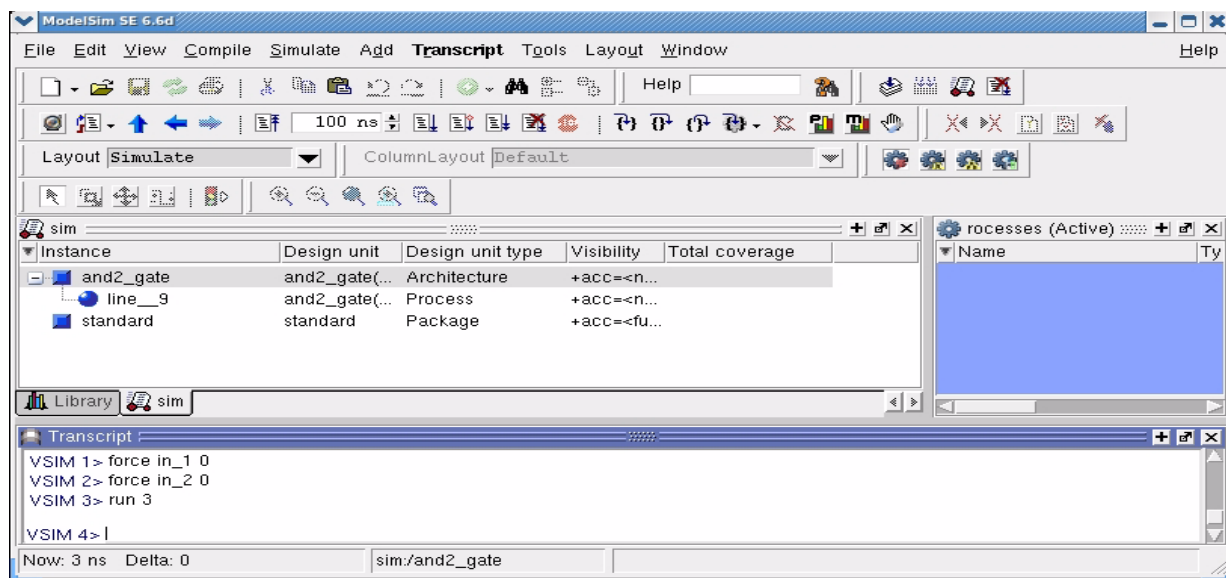

Figure 4: Issuing a force command from the Simulation window.
(5) One can manually assign values to signals using the **force** command. This command is issued from the Transcript portion of the Simulation window. Enter the following commands from the bottom portion of the Simulation window as shown in Figure 4: